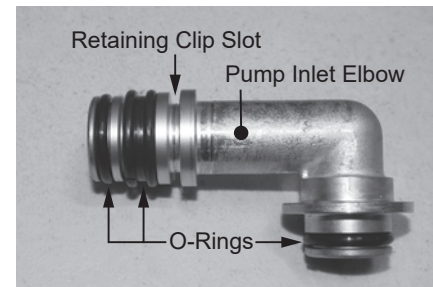

Figure 183 - Pump inlet elbow O-rings
- Locate new pump inlet elbow and three (3) O-rings provided in the kit. The pump inlet elbow uses one (1) 15 x 2.5 O-ring on the inlet side, one (1) 16 x 7 double seal O-ring on the inlet side, and one (1) 15 x 2.5 O-ring on the outlet side. Install O-rings to elbow. Install elbow to water pump and secure with retaining clip. Proceed to **Step 33** if not replacing water pump. See Figure 183.
The pump inlet elbow uses one (1) 15 x 2.5 O-ring on the inlet side, one (1) 16 x 7 double seal O-ring on the inlet side, and one (1) 15 x 2.5 O-ring on the outlet side. See Figure 183.